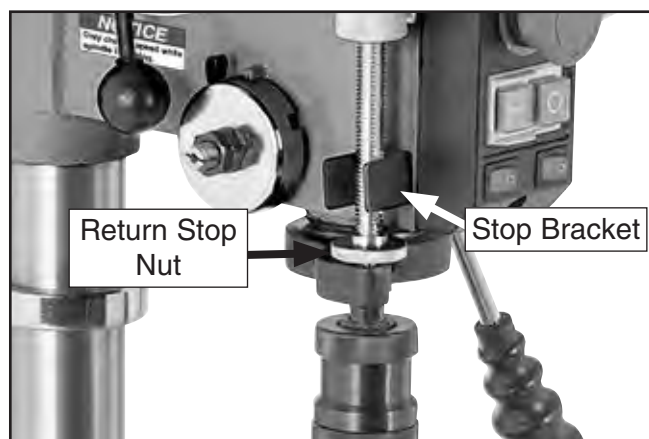

Figure 25. Feed return stop nut location.
3. Adjust feed return stop nut shown in **Figure 25** so it touches stop bracket. The quill should not return up into the head casting when depth stop is adjusted this way.